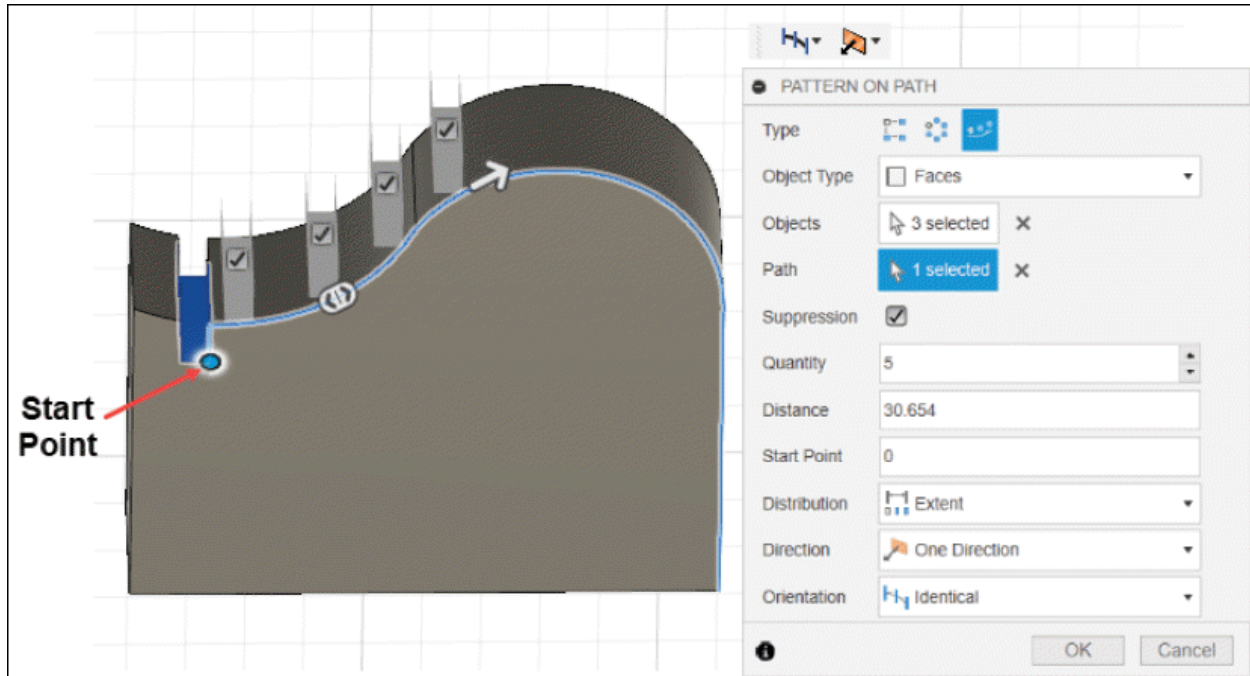

Figure-102. Pattern creation with start point
- The **Start Point** option is used to specify the distance from the start point to place where the first pattern instance will be created. It is shown in the screen canvas as a **white point** and determines the starting point of the selected path. It can be set to any value between zero and one using the **Start Point** edit box, but it is easier to adjust it manually by dragging the start point; refer to Figure-102.